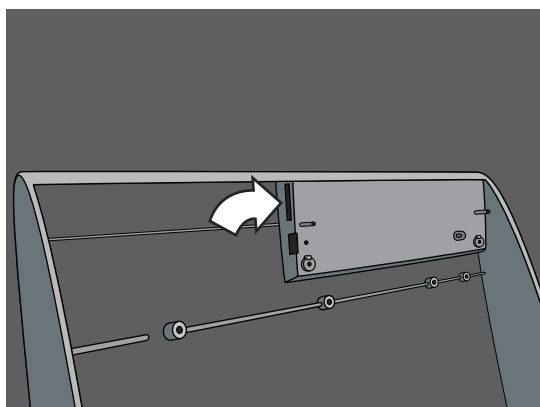
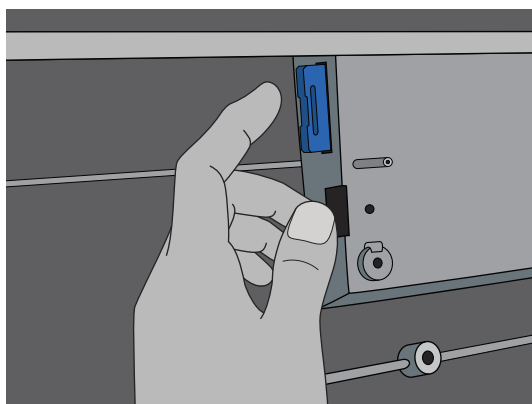

FIGURE 35
FIGURE 36
3. Gently push in the card protruding from the thin slot until it disengages and then remove it. (figure 35 and figure 36)